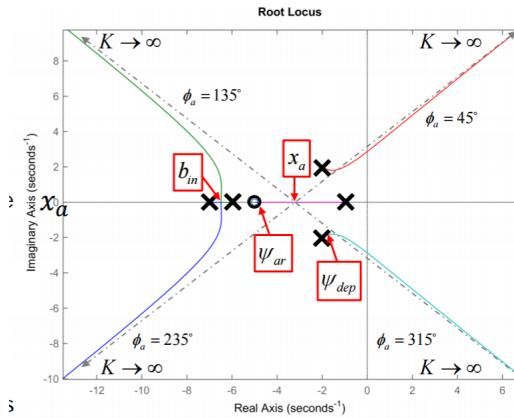

Figure 6.4: Root-locus plot of arbitrary system.
Consider, for example, the root-locus plot of a certain system, as shown in figure 6.4. It's a bit overwhelming at first, but let me guide you through it, step by step:
1. Root loci only exist on the real axis (the horizontal axis) to the left of an odd number of real axis poles or zeroes. What do I mean with this exactly? Look at figure 6.4: on the real axis, the pole on the horizontal axis closest to the origin is the first pole/zero on the horizontal axis. The zero to the left of it is the second pole/zero on the horizontal axis. The pole to the left of that one is the third pole/zero on the horizontal axis and the pole to the left of that one is the fourth pole/zero on the horizontal axis. We see that there is a root locus to the left of the first pole/zero on the horizontal axis (namely the purple line), and to the left of the third pole/zero on this axis (namely the green and blue lines), but not to the left of the second pole/zero or fourth pole/zero. This is no coincidence: this is always the case: when counting from the right, there will only be root loci to the left of odd-numbered poles/zeroes (doesn't matter whether they are poles or zeroes).
5. From the complex plane, the root-locus enters the real axis in break-away points (or break-in points, different name for same thing), as denoted by b_{in} in figure 6.4. You can calculate these using Matlab/Python.